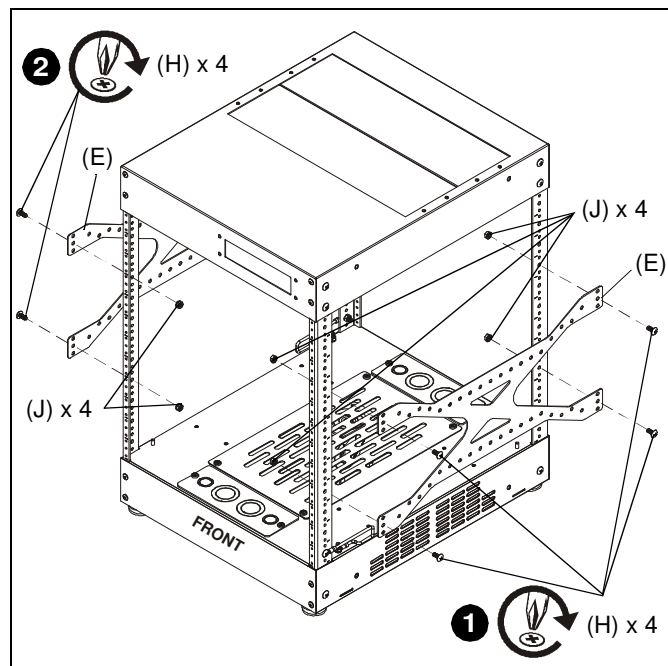

Figure 4
1. Attach cross brace (E) to side of S1 rack using four 1/4-20 x 5/8" Phillips truss head machine screws (H) with four 1/4-20 keps nuts (J). (See Figure 4)
2. Repeat for opposite side of S1 rack. (See Figure 4)